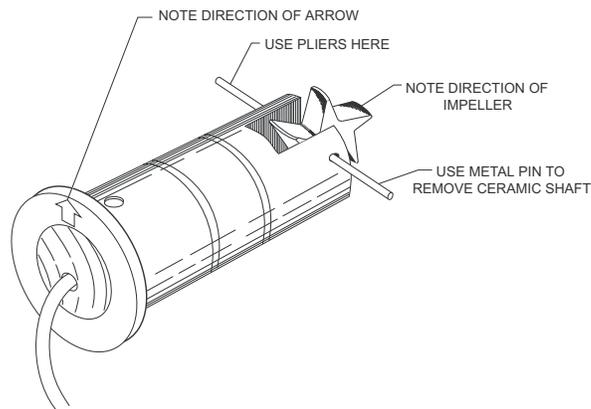

Figure 1: Impeller assembly
6. Refer to *Figure 1*. To reinstall, position the impeller in the cavity as described in the **NOTE** above so that the impeller blades point into the flow direction and toward the small alignment hole located next to one of the sight holes on the metal sensors. For the 250BR, the flow direction arrow on the top of the sensor housing should point downstream with the impeller blades pointing upstream.